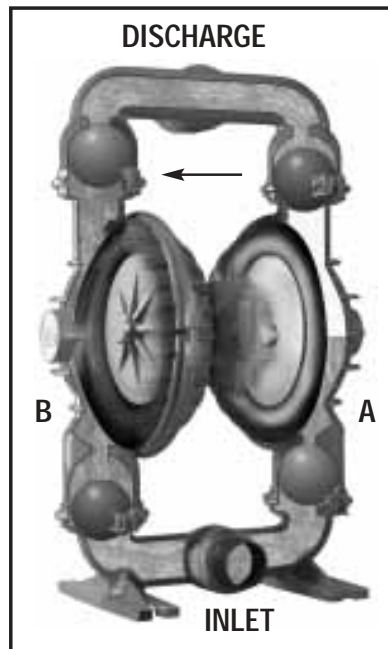

Figure 2 — Midstroke
**FIGURES 2 & 3** When the pressurized diaphragm (diaphragm A) reaches the limit of its discharge stroke, the air valve redirects the compressed air supply to the back side of diaphragm B. The pressurized air forces diaphragm B away from the center block while the shaft pulls diaphragm A toward the center block. The air chamber on side A exhausts its air to atmosphere through the exhaust port of the pump. Diaphragm B is now on its discharge stroke while diaphragm A is on its suction stroke. Diaphragm B forces the inlet valve ball (lower left) onto its seat due to the hydraulic forces developed in the liquid chamber and manifold of the pump. These same hydraulic forces lift the discharge valve ball off its seat, while the opposite discharge valve ball is forced onto its seat, forcing fluid to flow through the left side of the pump and out the discharge manifold. The movement of diaphragm A to the center block of the pump creates a vacuum within liquid chamber A. Atmospheric pressure forces fluid into the inlet manifold of the pump. The inlet valve ball (lower right) is forced off its seat allowing the fluid to enter the right liquid chamber.